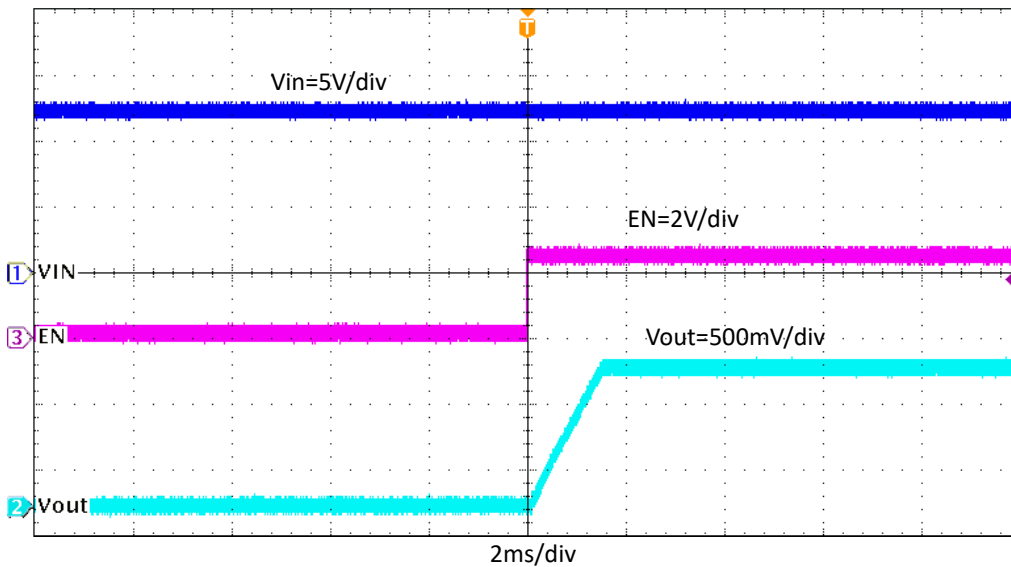

Figure 4-15. TPS564252EVM Start-Up Relative to EN
Figure 4-15 shows the TPS564252EVM start-up waveform relative to enable (EN). The load is 4 A.